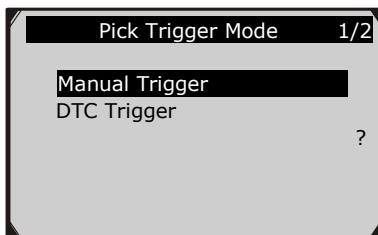

Figure 5.21
- 4) Use the **UP/DOWN** scroll button to select a trigger mode and press the **OK** button.( Figure 5.21)